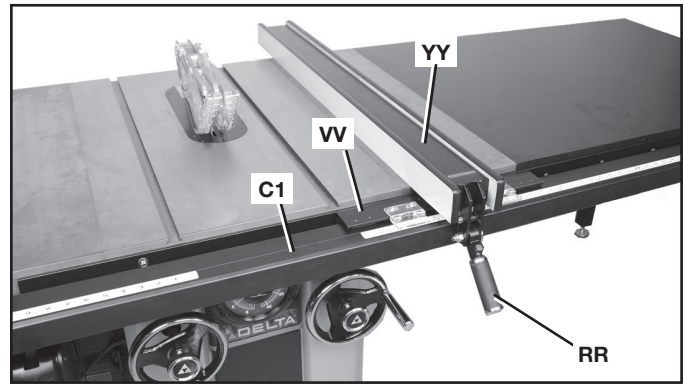
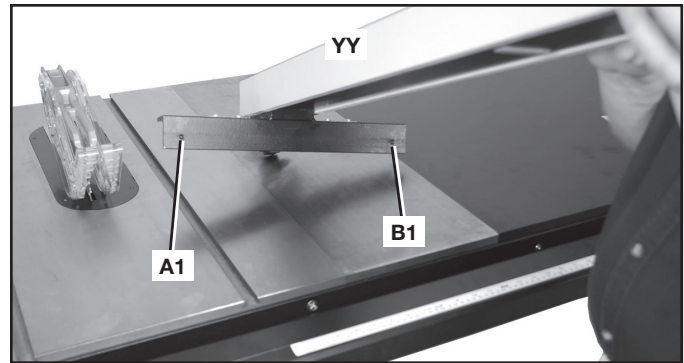

FIG. 24
FIG. 25
When the fence locking handle (RR) Fig. 24, is pushed to the down position, the fence crossarm (VV) should be completely clamped to the guide tube (C1).
If the fence crossarm (VV) Fig. 24 is not completely clamped to the guide tube (C1) when the handle is pushed down, as shown, lift up handle (RR), raise fence off the guide tube and turn fence around as shown in Fig. 25.
If fence is too loose - slightly tighten the two adjusting screws (A1) Fig. 25 and (B1).
If fence is too tight - loosen the two screws (A1) and (B1) in Fig. 25.
Replace the fence back on the guide tube (C1) Fig. 24 and recheck to see if the fence crossarm is completely tightened to the guide tube with the locking handle (RR) pushed down. Adjust further if necessary.
NOTE: Re-check the fence (YY) Fig. 24 and make sure it is still parallel with the miter gauge slot.